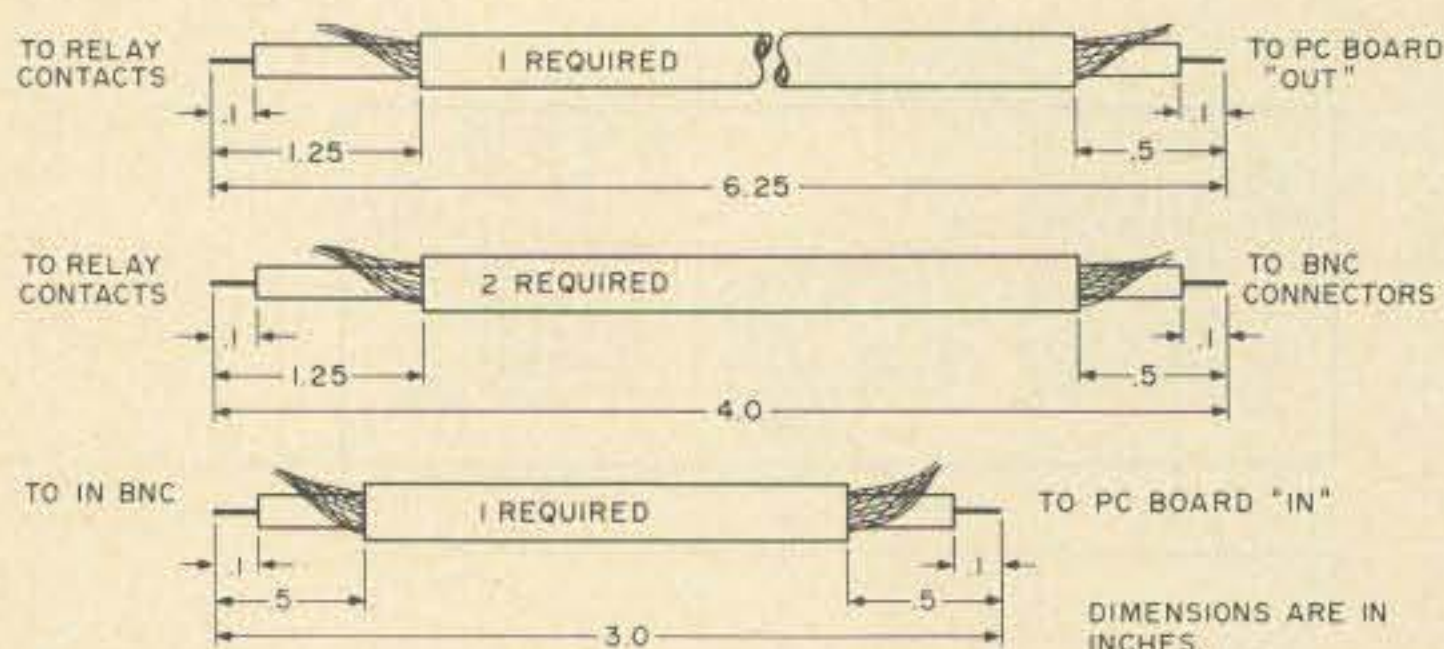

Fig. 10. RG-188 cable preparation.
12. Prepare four RG-188 cables as shown in Fig. 10.